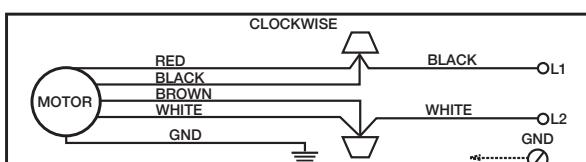

Figure 6
5. Slide the upper canopy (B) up the rod to within 1/4" of the ceiling or beam and securely tighten the set screw (F).
6. If a remote speed control or reverse switch is to be used refer to the Instruction Manual included with that controller for proper installation and wiring. Refer to Figures 6 and 7 for proper installation and wiring if no remote speed control or reverse switch is to be used.